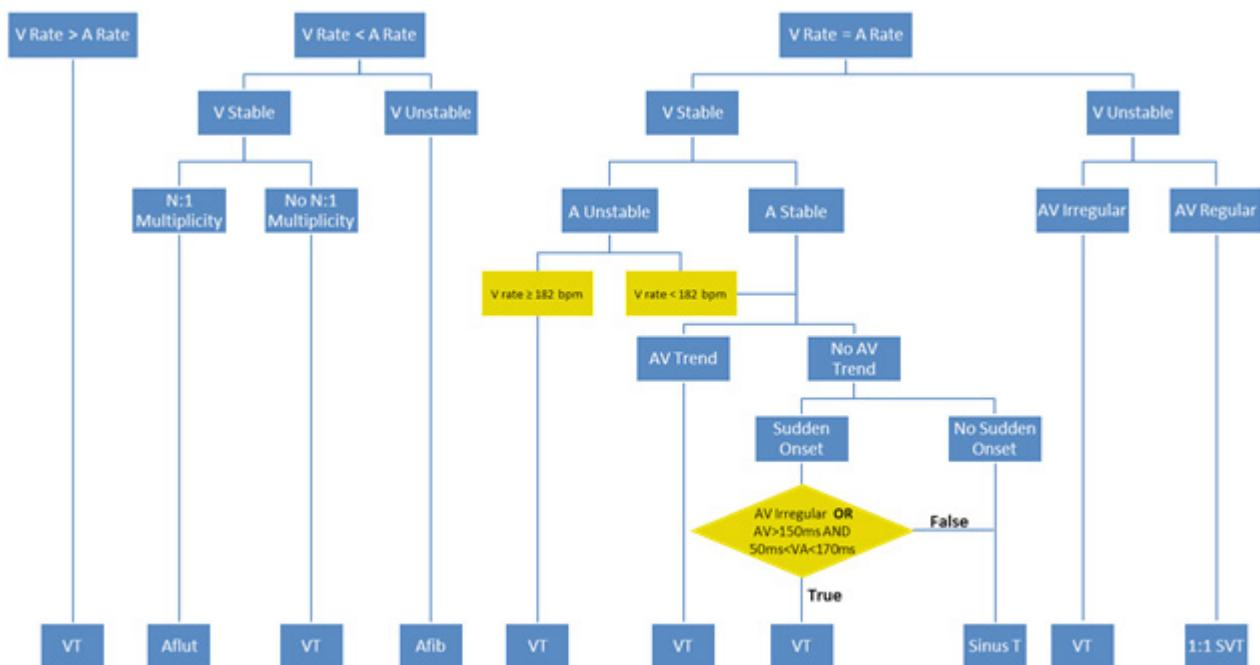
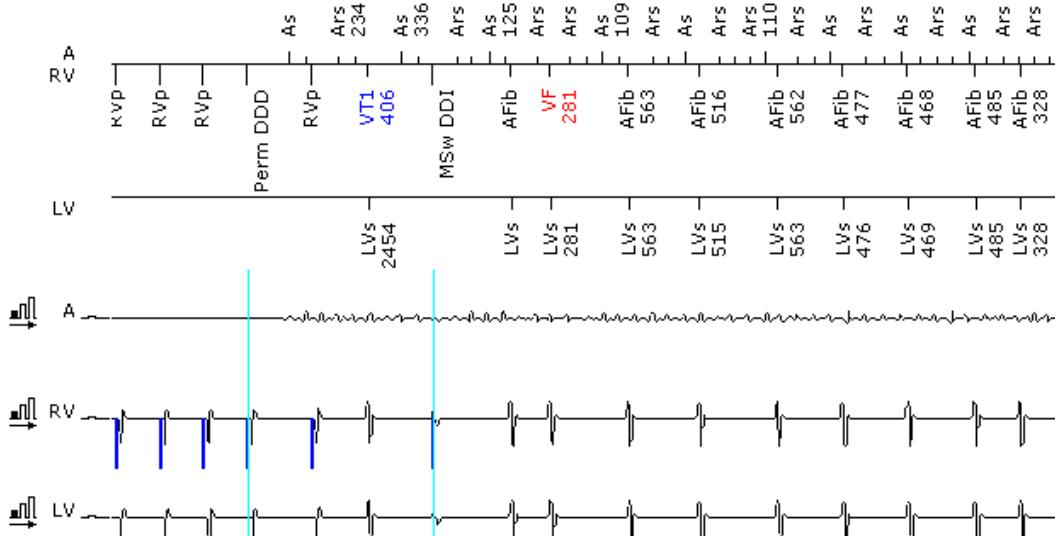

Figure 99: The SMART Detection® decision tree.
Figure 102: SMART® Redetection
SMART Detection® is one of the most sophisticated detection algorithms available for the discrimination of ventricular tachycardia (VT) and supraventricular tachycardia (SVT). SMART Detection® (Figure 99) is designed to increase detection specificity (i.e., to increase the likelihood that atrial tachycardia is not declared a VT) without sacrificing sensitivity (i.e., the ability to detect and treat all VTs with therapy).
Additional steps in the SMART tree, highlighted in yellow, determine between a biarrhythmia, a monomorphic VT with retrograde and a sinus tachycardia by evaluating the ventricular rate, AV regularity and VA interval lengths (Figure 99).
Using SMART Detection®, a biarrhythmia (i.e., a concurrent atrial and ventricular arrhythmia) is identified along several branches of the SMART Detection® decision tree. The biarrhythmia in this section occurs when the atrial rate is greater than the ventricular rate, the ventricular rate is stable, and multiplicity cannot be established. When these conditions are met, a VT with concurrent atrial tachycardia or atrial fibrillation is identified. Each beat will be marked with a VT marker (Figure 102).
Once SMART Detection® identifies equal atrial and ventricular rates, atrial and ventricular stability is tested. In this branch, SMART uses other criteria to determine between VT or SVT by evaluating the ventricular rate. If the ventricular rate is stable, the atrial rate is unstable and the ventricular rate is greater than or equal to 182 bpm, the rhythm is disassociated and classified as a VT. If the ventricular rate is less than 182 bpm, atrial stability is considered fulfilled and the remaining SMART criteria in Branches 6, 7 and 8 are used to determine between VT or Sinus Tachycardia (Figure 99). During redetection, SMART will ignore the “Vrate > 182 bpm and Vrate < 182 bpm” criteria (shown in yellow in Figure 99) and only use atrial and ventricular stability to classify a VT event.
Since the ventricular rate may increase gradually in ST, SMART Detection classifies the rhythm as ST if the ventricular and atrial rates equal, if both atrial and ventricular rates are stable, if there's no AV trend and if Sudden Onset is not met. SMART Detection® identifies the rapid change in heart rate with the Sudden Onset criteria to distinguish monomorphic VT with retrograde conduction from ST. SMART will decrease the VT counter by -1/2 for any ST detection. During redetection, SMART will classify a beat as ST only if ventricular and atrial rates are stable, if there is no AV Trend and if Sudden Onset is not met. The criteria in yellow [Figure 99] will not be used during redetection.
SMART® Redetection is automatically ON when SMART Detection® is programmed. It is used after VT therapy delivery to withhold further therapy if the delivered VT therapy resulted in an SVT. VT redetection with SMART® Redetection ON is based on the programmable Redetection Count; however, the counters are changed. A VT interval will increment the counter +1, a VF interval “freezes” the counter, and a Sinus interval decrements the counter by -1. SVT events will decrement the counter as in initial SMART® Redetection. The exception of behavior with SMART Detection® ON is Branch #10, which decrements by 3/4. SMART® Redetection will not use the discriminators “Vrate > 182 bpm and Vrate < 182 bpm” or the “AV unstable or AV and VA interval” criteria as shown in yellow in Figure 99. The Sustained VT timer is not utilized when SMART® Redetection is ON, but rather a Forced Termination timer is used. An Example of SMART® Redetection is shown in Figure 102.
Figure 102 shows a detected VT treated with ATP. The result of the therapy was atrial fibrillation. Because SMART® Redetection is ON, no therapy will be delivered while the AFib continues.